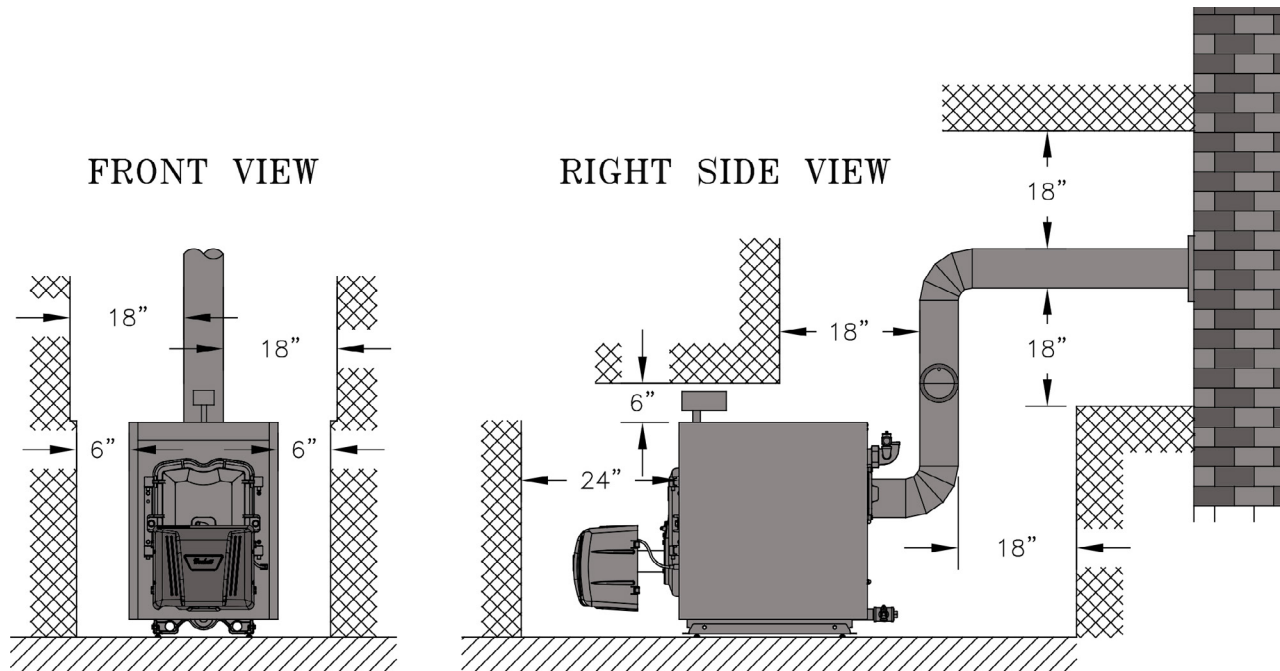

Figure 1-4: Chimney Vent - Minimum Installation Clearances To Combustible Materials (Inches)
(Note: This dimension will also be controlled by horizontal to vertical to horizontal smokepipe arrangement - **Chimney Vent** (see Figures 1-4 and 4-1).
5. For minimum clearances to combustible materials. See Figures 1-4 and 1-5.